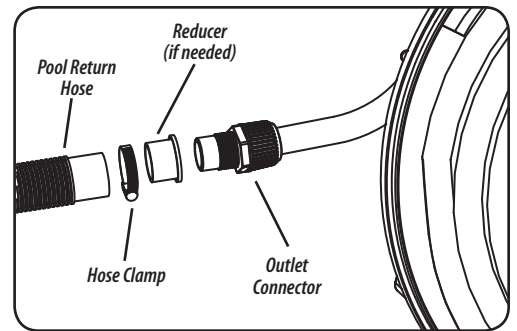

Figure 3
- 2) Using a hose clamp, secure the loose end of your existing pool return hose to the outlet connector (see figure 3).